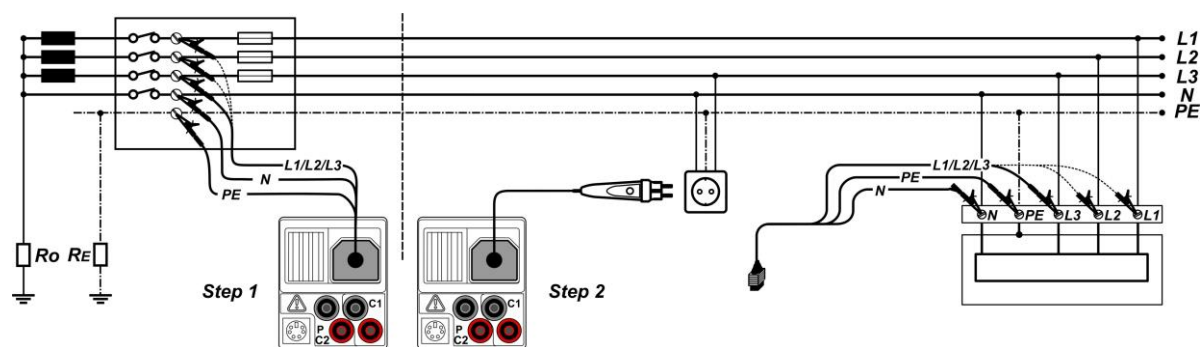

Figure 5.30: Phase-neutral or phase-phase voltage drop measurement – connection of plug commander and 3-wire test lead
- **Connect** the test leads to the origin of electrical installation (see figure 5.30).
- **Connect** the test leads to the tested points (see figure 5.30).